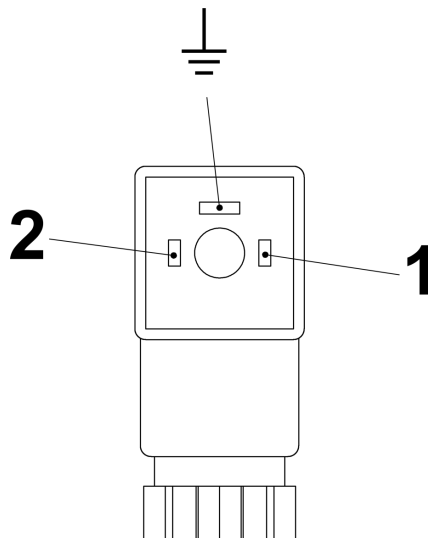
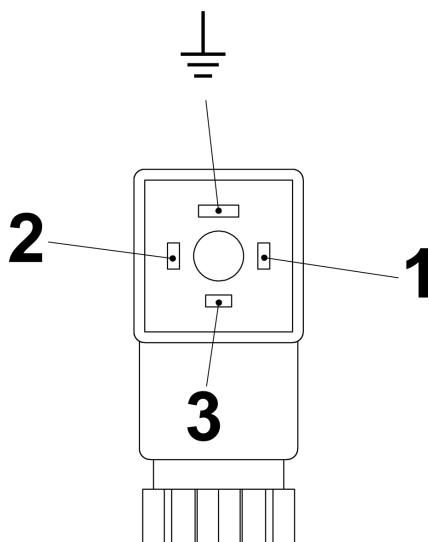

Fig. 25: Pin assignment, plug socket, Normally Open Contact (Form 15x50)
Fig. 26: Pin assignment, plug socket, Change-Over-Contact (Form 15x50)
- 6.** Make the connections as shown in the connecting diagram (Fig. 25 und Fig. 26)